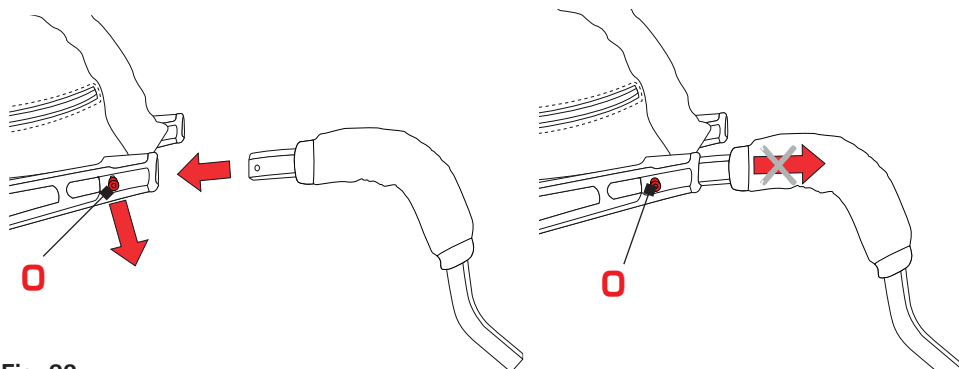

Fig. 23
- **Transportation with the handles (fig. 23, 24 and 25)**